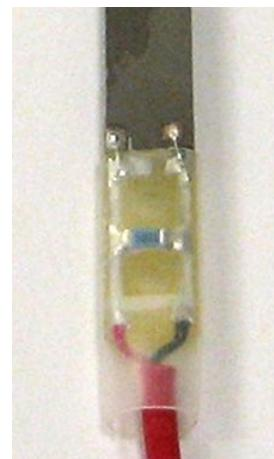

Fig. 4.3S Proper placement of the heat-shrink tubing.
4.3S Cut a $\frac{7}{8}$ " length of $\frac{1}{8}$ " clear heat-shrink tubing. Affix this to the base of the bending actuator so that the top of the clear heat-shrink tubing meets the bottom of the piezoceramic rectangle of the bending actuator as shown in figure 4.3S below. Sliding the heat-shrink tubing over the base of the bending actuator will be a tight fit. If the heat-shrink tubing gets stuck on the resistor on the base, you can use the tip of an exacto-knife to gently pull the lip of the heat-shrink tubing over it. Be patient and gentle, and always make sure to grip the bending actuator on its base, and not on the fragile piezoceramic piece.